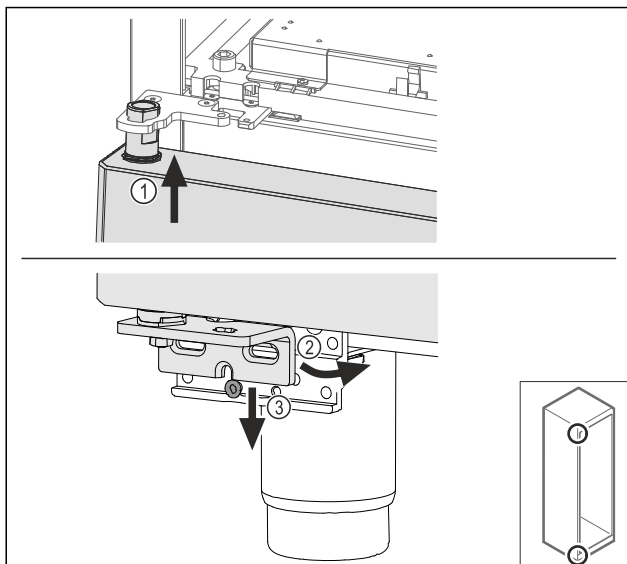

Fig. 63
- ▶ Insert the door slightly tilted at the top Fig. 63 (1), align the door straight Fig. 63 (2) and place it on the bottom of the swap bearing block screw Fig. 63 (3).